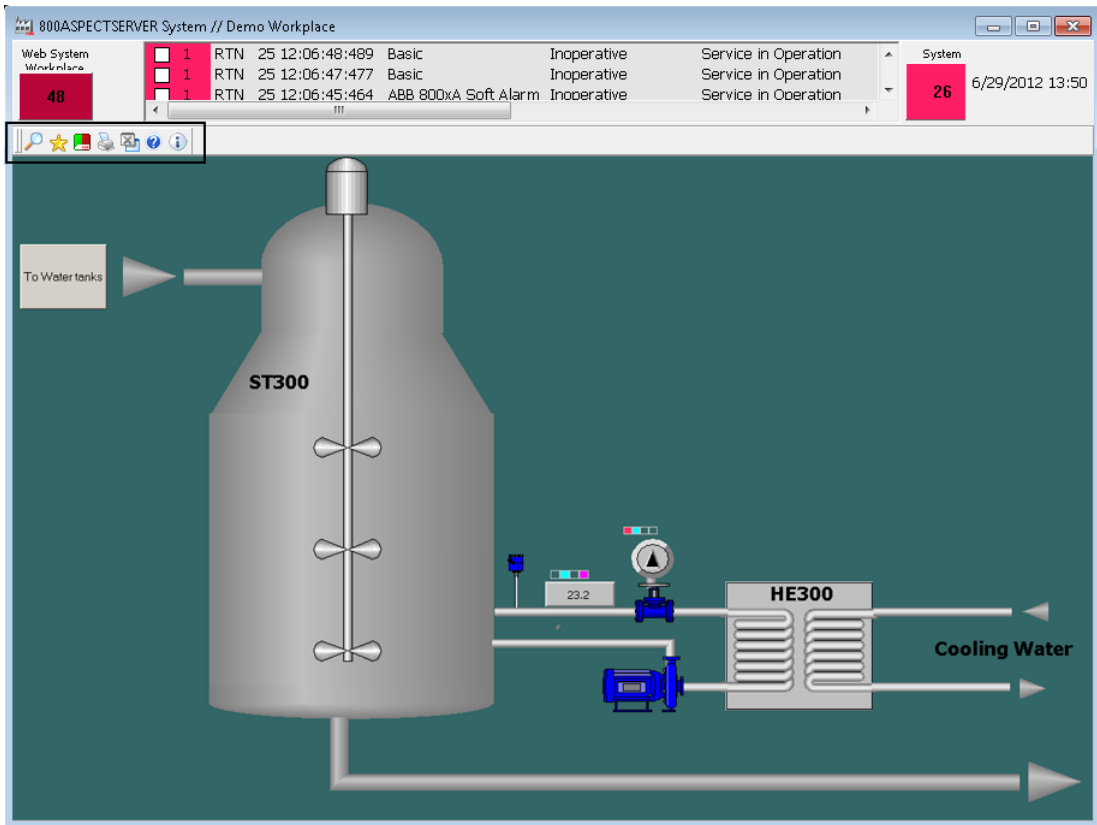

Figure 23. Operator Workplace with Combined Toolbar
17. Launch the workplace to view the Combined Toolbar. See Figure 23.